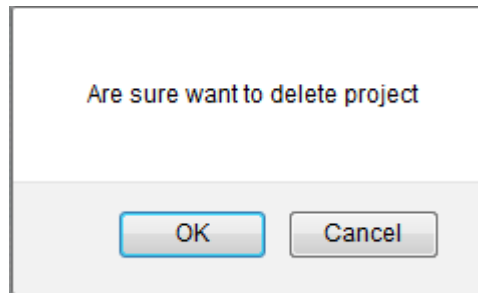

Figure 1.16
4. The user receives the confirmation message and then click **OK** button. (Figure 1.16)The project is now removed from the system.